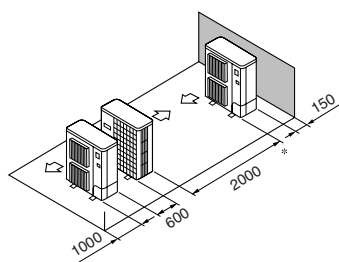

Fig. 2-12
⑤ Single parallel unit arrangement (Fig. 2-12)